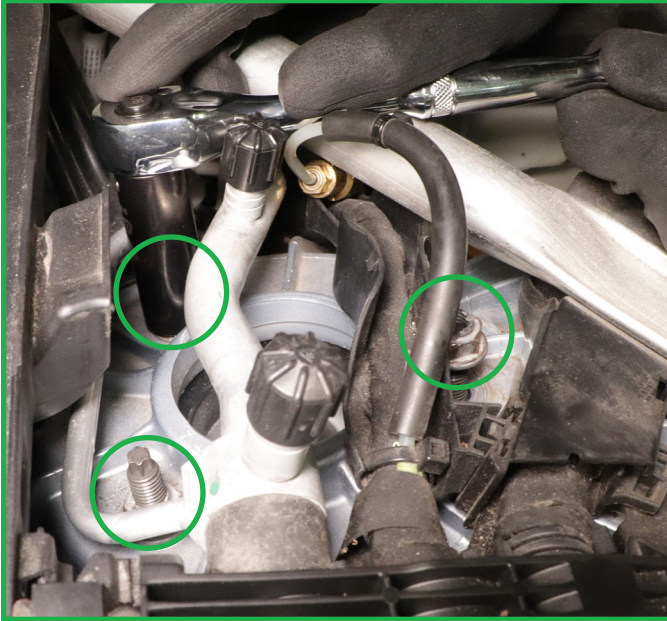

FIGURE 10
6. Remove the three (3) strut top mount nuts. (Figures 10, 11)